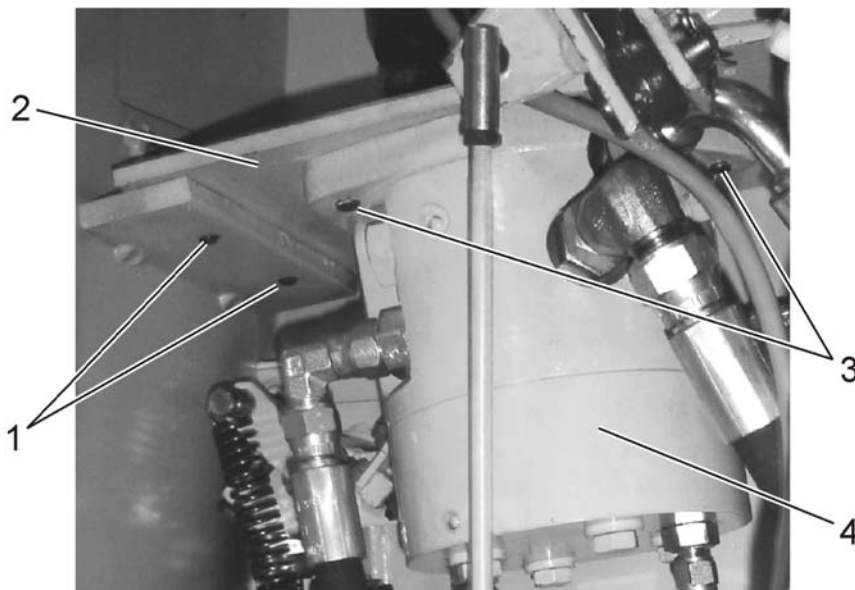

Fig. 7C.20. Drive Train Control Valve Disconnecting Points
9. Unscrew four mounting bolts (1, Fig. 7C.20) securing valve bracket (2) to the platform and remove the valve with bracket from the platform. Unscrew three mounting bolts (3) securing drive train control valve (4) to valve bracket (2) and remove the bracket (2) out of the valve (4).